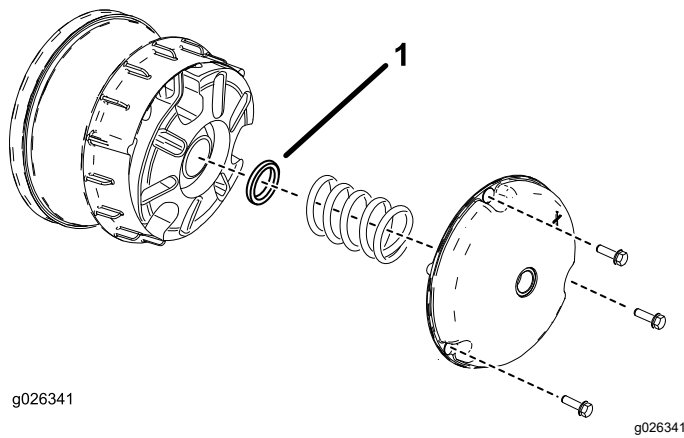

Figure 63
2. Remove the bolts securing the primary clutch cover as shown in Figure 63.